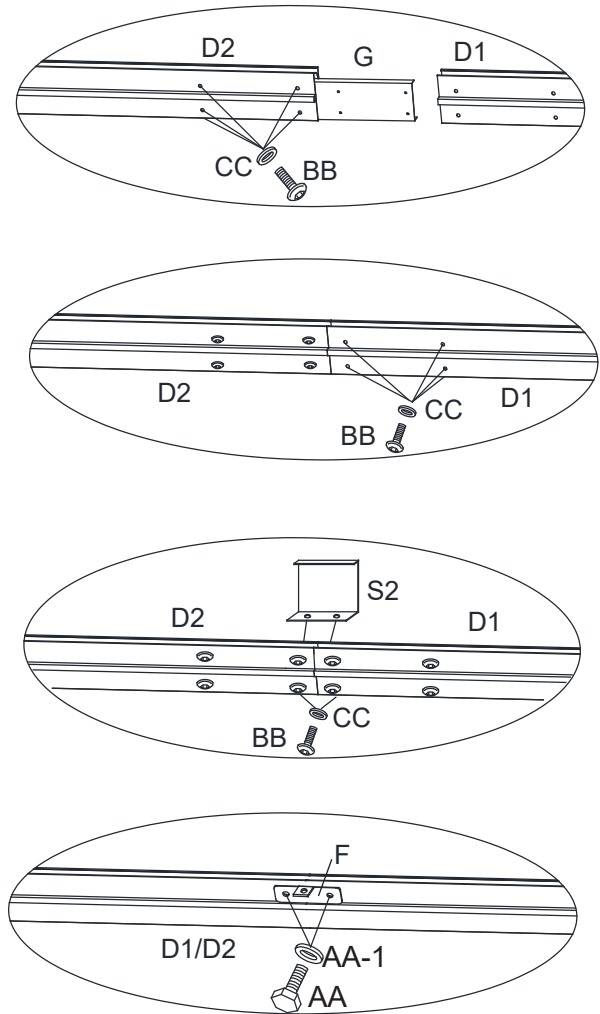

Fig.3.2
3.2.Connect the Long Left Lintel (D1) with the Long Right Lintel (D2) through the Lintel Connector - Large (G) by bolt (BB) and washer (CC) , put the Lintel Cover - Center (S2) onto the joint of the two lintels with bolt (BB) and washer (CC) , then screw in the Connector (F) into the lintel (D1/D2) using bolt (AA)and washer(AA-1) , pay attention to install the screws based on the orders shown in the illustration. See.Fig.3.2